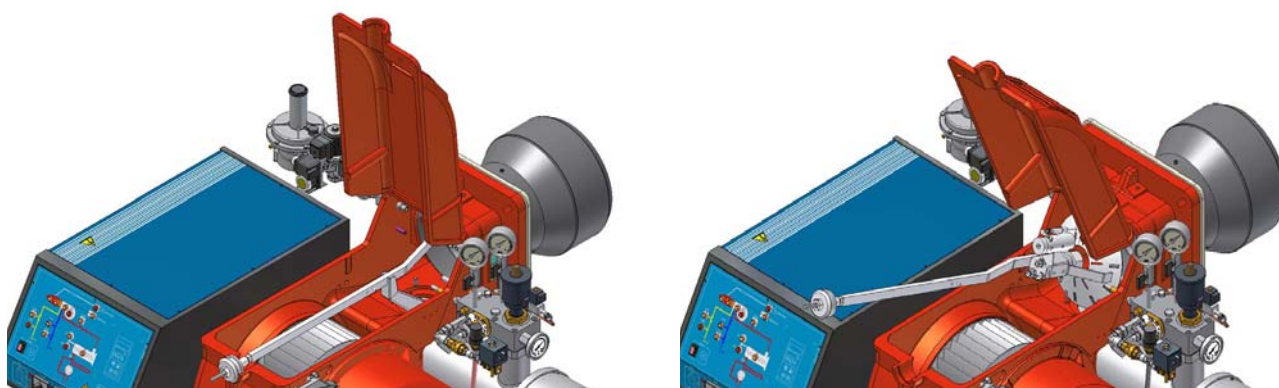

Fig. 24
- Unscrew the flexible hoses from the gun (burner side) and remove the whole assembly as shown on Fig. 24.